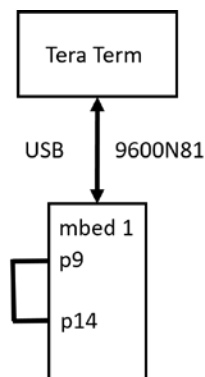

Figure 1 Part A wiring diagram.
Part A: Using the instructor provided mbed code on a single mbed connected as shown in Figure 1, investigate the effect from mismatched asynchronous serial communication parameters.
- 3) Connect the mbed p9 (Serial #1 Tx) and p14 (Serial #2 Rx) on a single mbed using the provided wire as shown in Figure 1. Ensure that you have the correct pins connected or you will not successfully complete this section. It is recommended that the connection be made with power secured to the mbed (center blue LED off) to avoid damaging the circuit if an incorrect pin is connected. See Figure 2 for the pin locations.